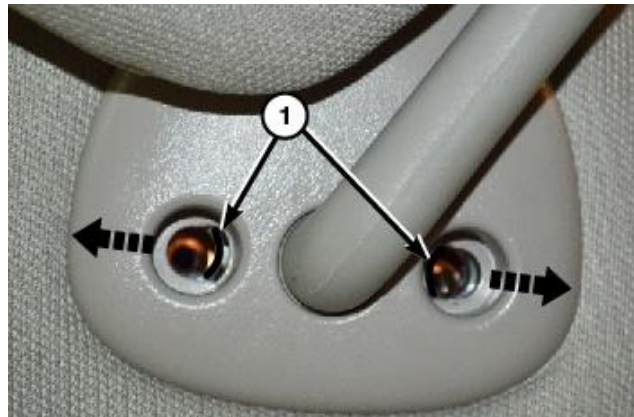

Figure 48 – Visors
Using a small flat bladed tool or equivalent, release the retaining tabs (1) and separate the visor from the headliner (Figure 48).